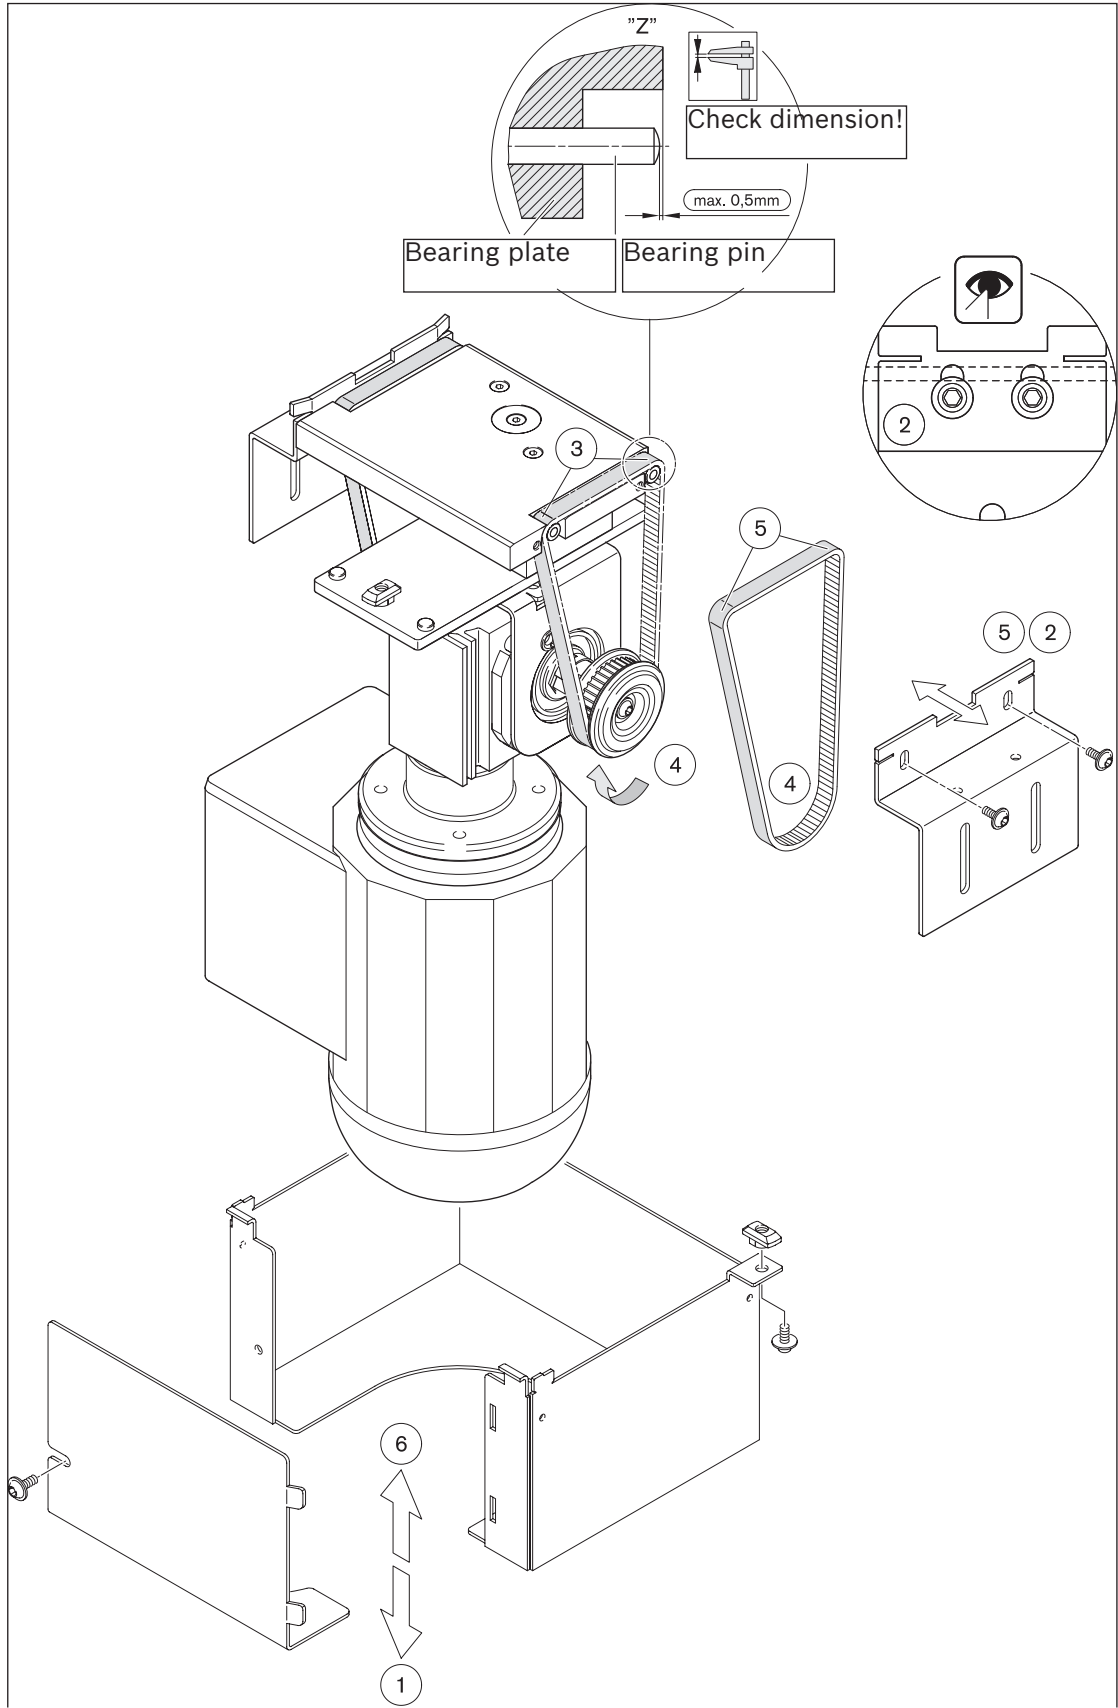

Fig. 23
10.4.4 Replacing the conveyor belt (Fig. 23)